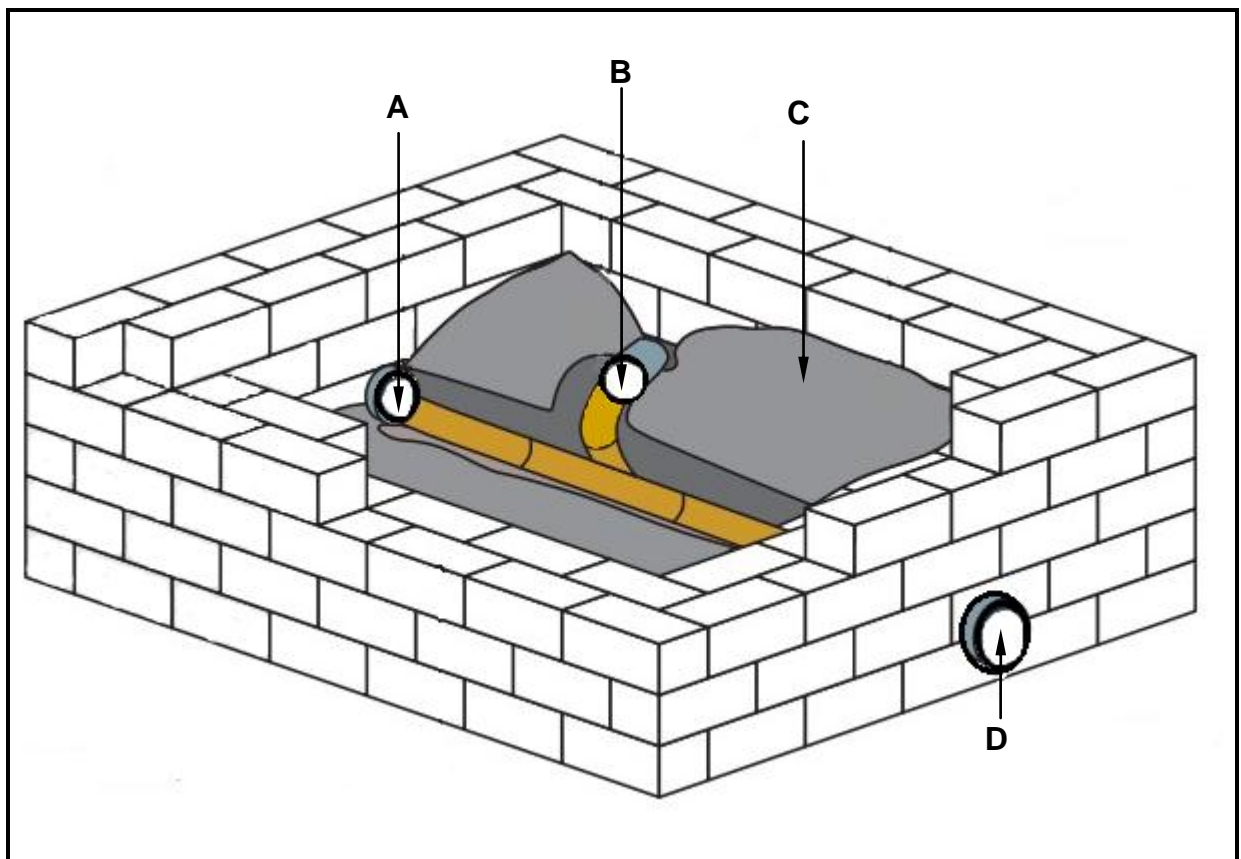

FIGURE 3.1
- 3.1 FIGURE 3.1 below is an illustration of a manhole. Study the illustration and answer the questions that follow.